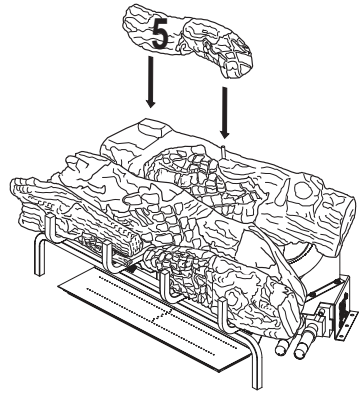

Figure 32 - Installing Log # 5
5. Place the left top back log (#5) on top of the rear log. Match the rectangular projection on top of the left side of the rear log with the rectangular hole on the bottom of the left top back log. Match the metal pin on the top of the rear log with the round hole in the bottom of the left top back log. See Figure 32.